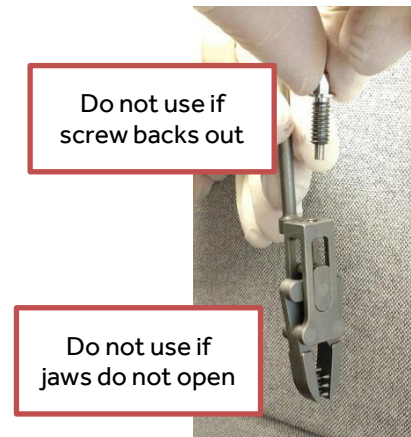

Figure 3: damaged spine clamp
- The clamp screw backs out of the clamp. See Figure 3